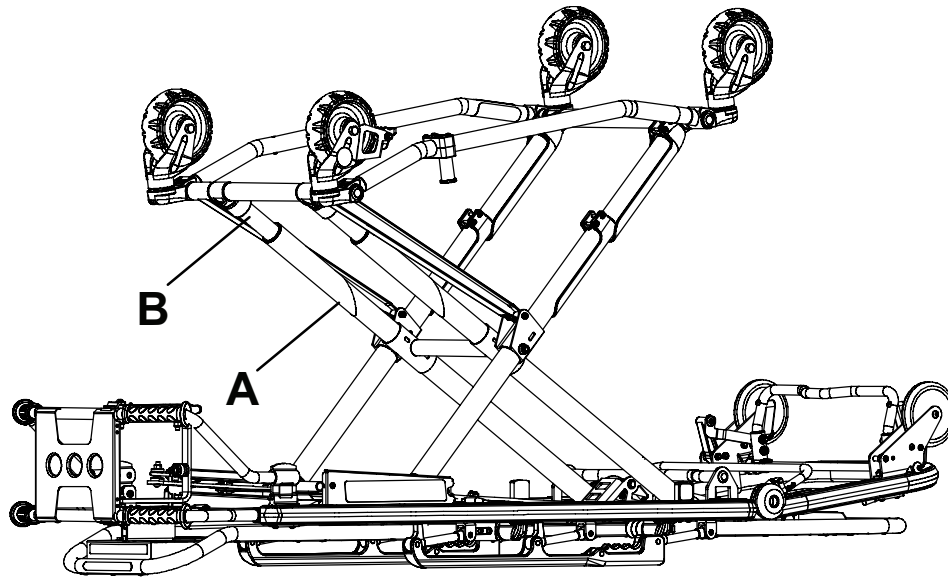

Figure 25 – Base lubrication locations
3. Using the plastic applicator tube, spray **Tri-Flow™** with **Teflon®** lubricant (6082-199-012) in the gap between the upper (A) and lower lift tubes (B) on both foot end legs (Figure 25).